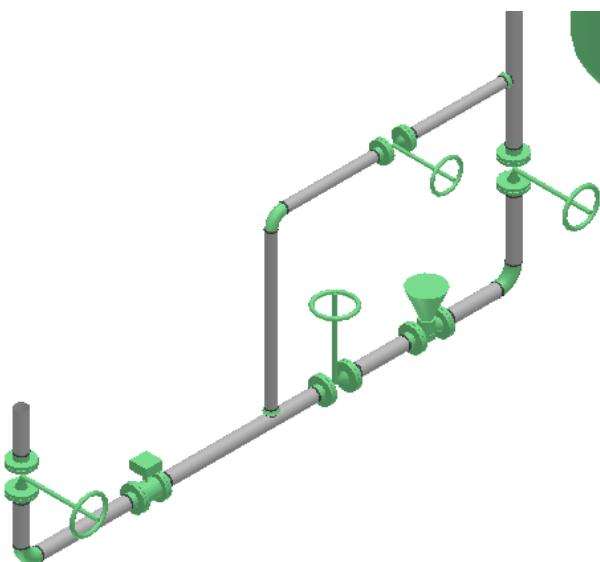

Figure 7.57: Placed Gate Valve
41. Click **Finish** on the **Insert Component** ribbon to place the pipe component, as shown in Figure 7.57.